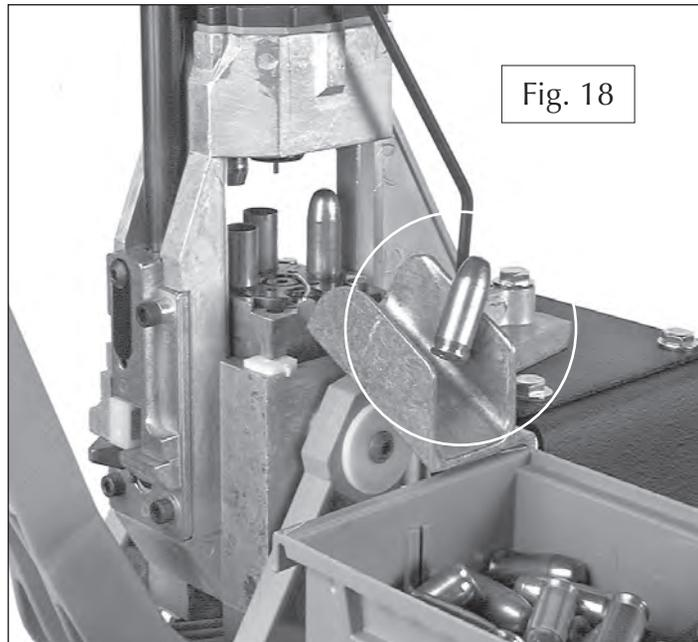

Fig. 18
- 4.) From this point on, place a bullet on the case at Station 3 with your left hand. Insert a case at Station 1 with your right hand and cycle the handle. Each time you cycle the machine a finished round will be ejected into the cartridge collection bin. (See Fig. 18 next page)